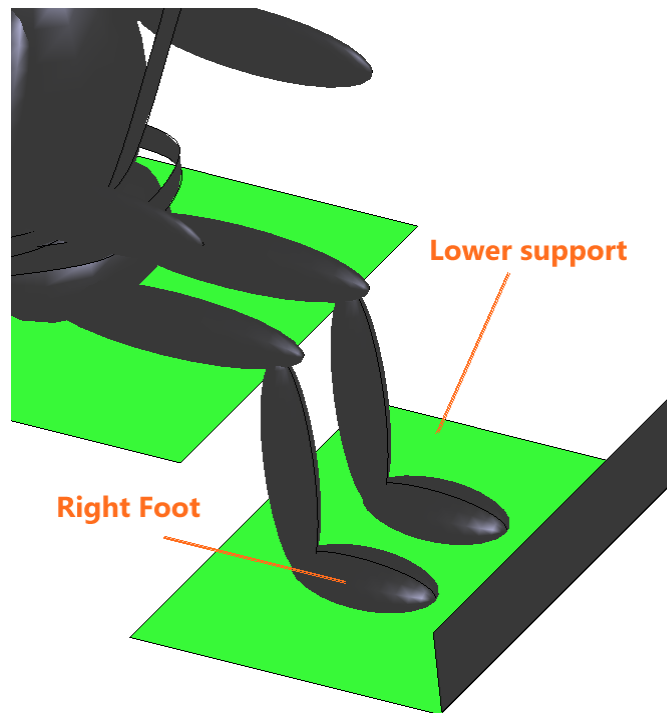

Figure 3. Model parts
4. Click in Group command (icon placed next to drop list) and select Lower support surface form the screen (Figure 3). Press ESC after selection.
4. Click in Group command (icon placed next to drop list) and select Right Foot surface form the screen (Figure 3), if render problems appears please rotate the model to solve them. Press ESC after selection.